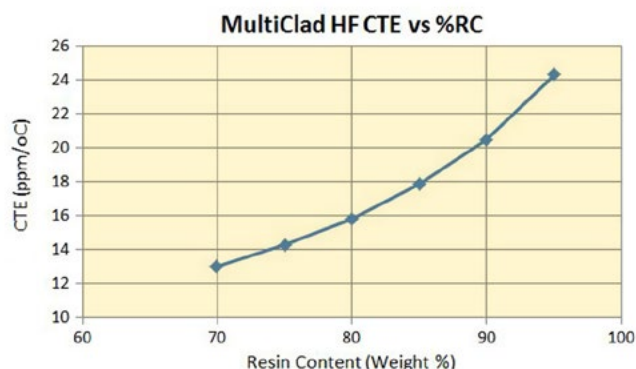

Figure 7.
3. Multiclad HF (MultiClad resin / E-Glass reinforcement) at 10 GHz (Figure 7 and 8).